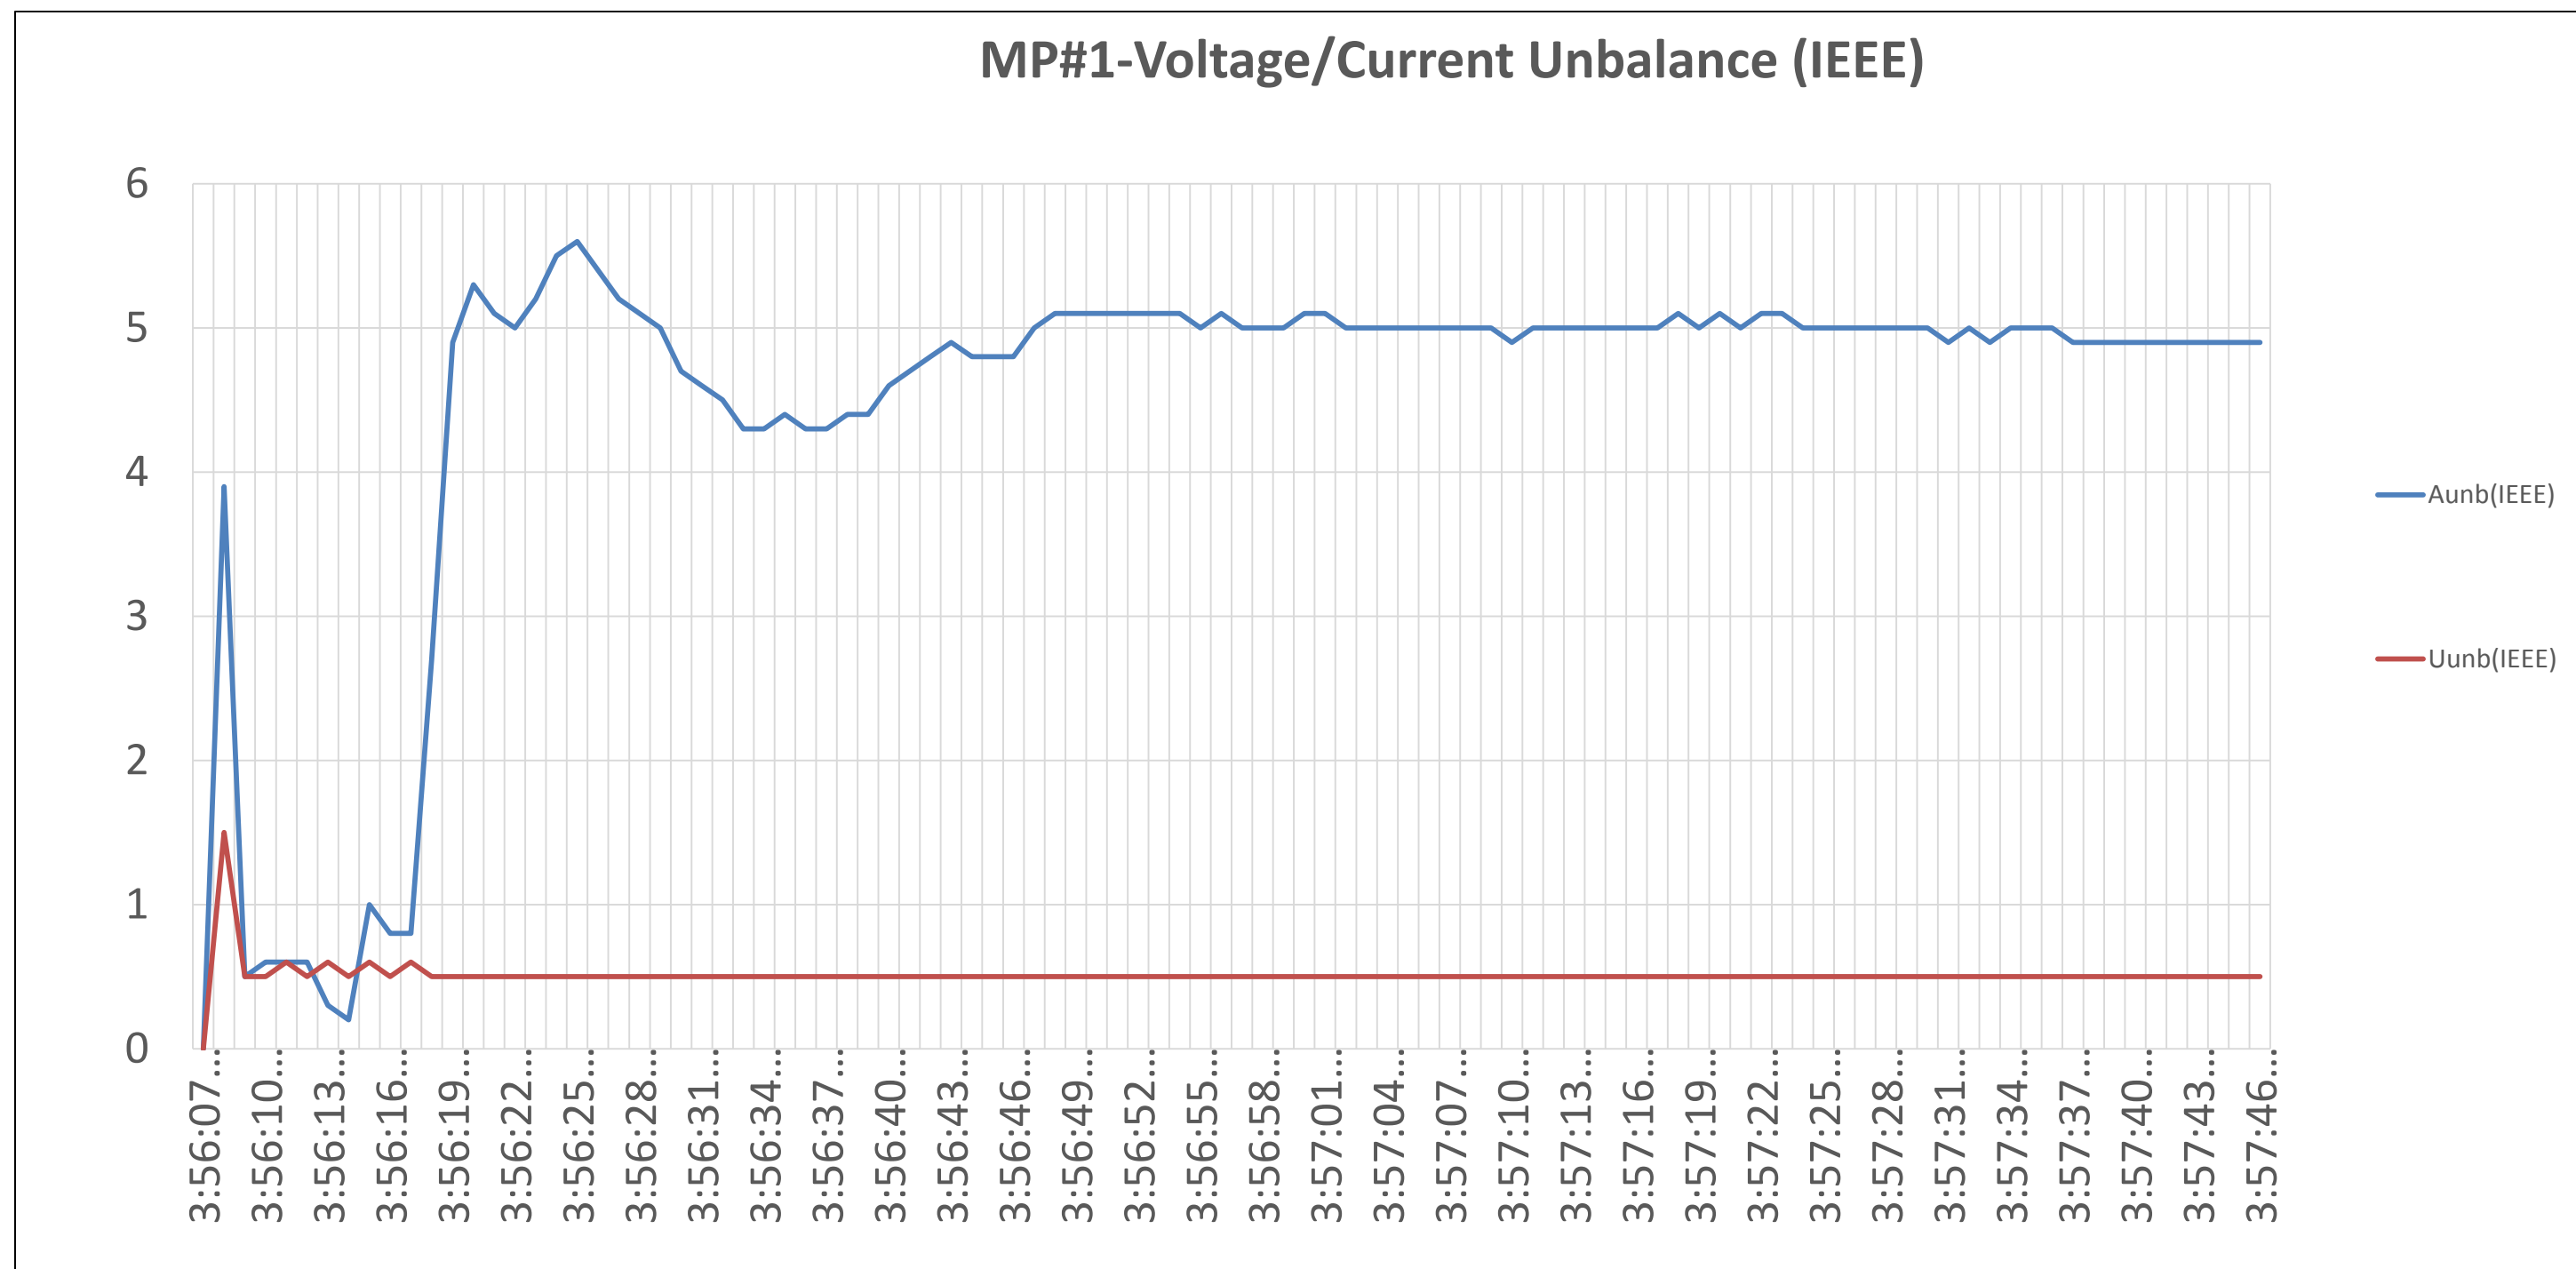

Figure 6 -Main Dewatering Pump # 1 Voltage/Current Unbalance (IEEE)
- Referring to Figures 6, 7 and 8 each pump stabilizes to run with an approximate voltage unbalance of 1% and an approximate current unbalance of 6%.